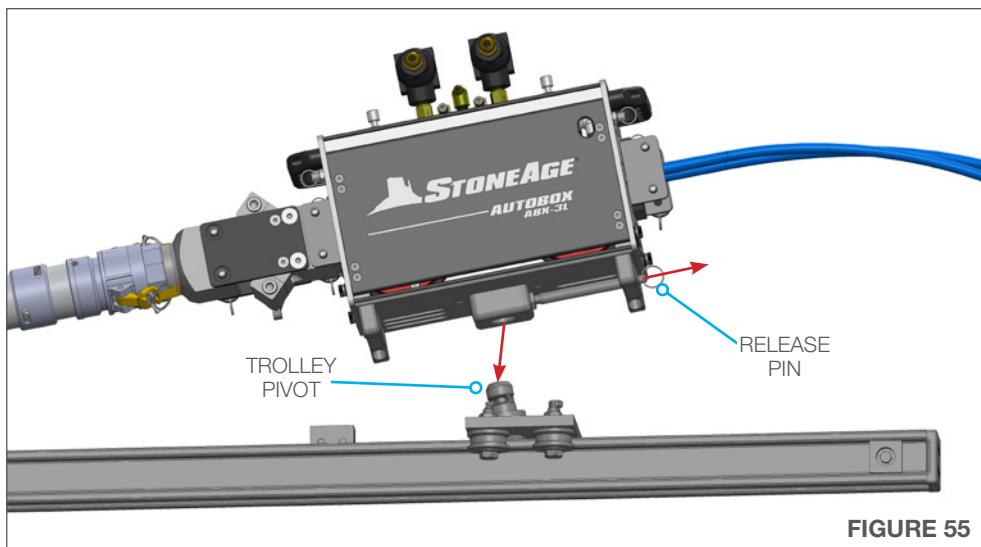

FIGURE 55
3. Pull out and hold the Release Pin under the ABX-3L-V2, set the mount onto the Trolley Pivot, and release the Release Pin, making sure it locks into place. (**Figure 55**)